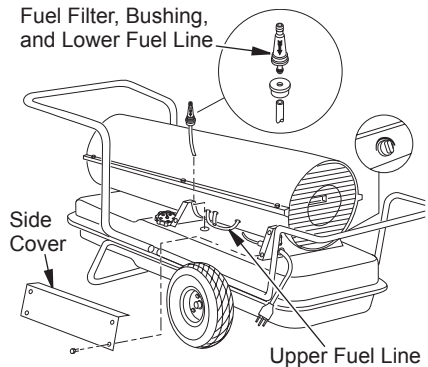

Figure 20 - Fuel Filter Removal, 115/165 Models
4. Carefully pry bushing, fuel filter, and lower fuel line (115/165 Models only) out of fuel tank (see Figure 20).